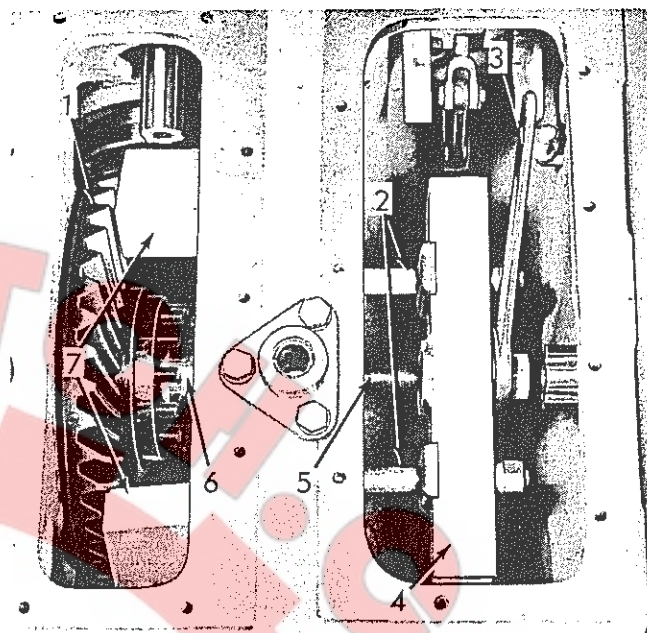

Fig. 14 Removing Bevel Gear Shaft
4. Refer to Fig. 14, install wooden blocks between bevel gear teeth and compartment wall to hold gear stationary. Install puller tools similar to those shown; pull bevel gear shaft from bevel gear.